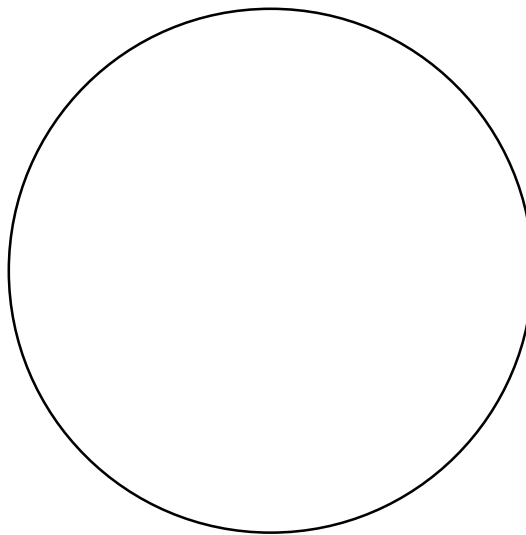

Fig. 1
9. Figure 1 below is the outline of a timber log. Complete the details to show :-